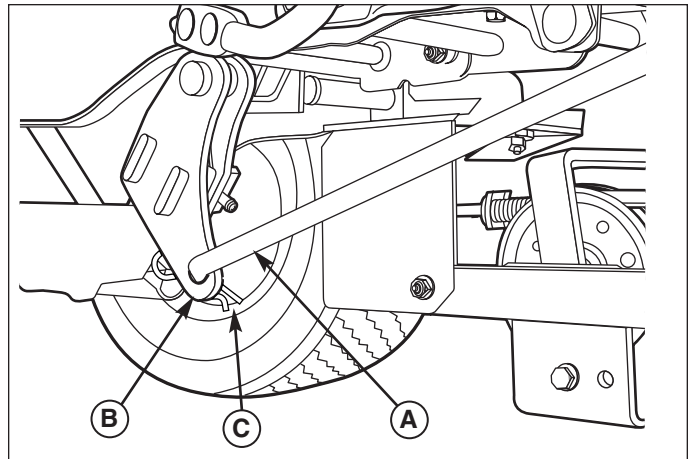

Figure 12. Install Lift Rod
2. Connect the rear of the lift lever (A, Figure 12) to the lift arm extension (B) using a hair pin clip (C).